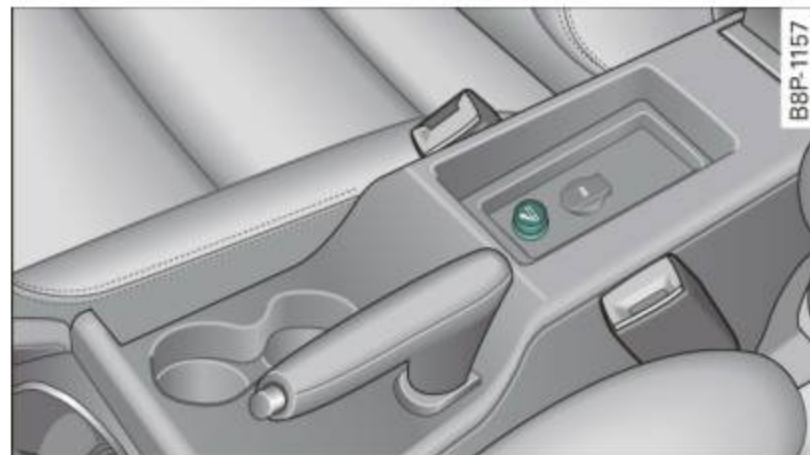

Fig. 118 Cigarette lighter/socket raised
- Push the knob in ⇒ fig. 118 .
The socket of the cigarette lighter ⇒ fig. 118 may be used for 12 volt appliances with maximum consumption of up to 100 watts, such as a flash light, small vacuum cleaner, etc.